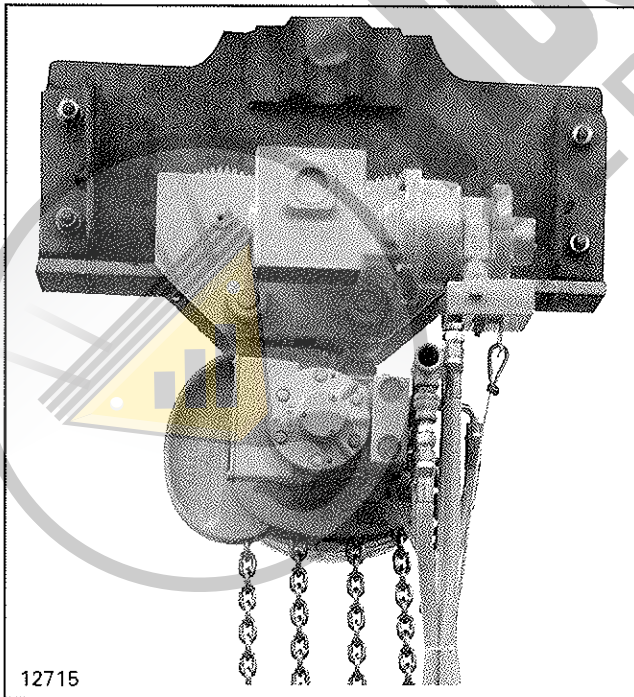

Figure 1. Standard Trolley and Hoist.
A standard 3 ton Air Motor Driven Trolley is illustrated in Figure 1. The pendant and hose assembly is shipped loose and should be attached after trolley and hoist installation.
3. The air intake elbow on the YALE air hoist should point away from the runway beam (see Figure 1).
a. Use close nipple in elbow to attach tee as shown in Figures 1 and 9.